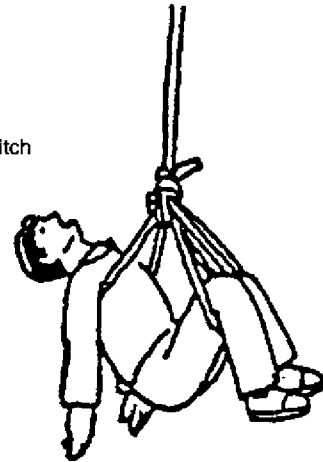

Fig. 3-53-4
- (d) With the three loops formed, put the legs of the person being rescued into the loops first, then the torso sling under the arms, lastly sliding the leg loops behind the knees. (Fig. 3-53-4)